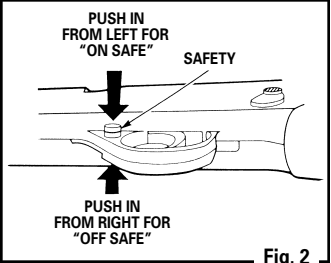

Fig. 2
• Push the safety from the left side all the way in (Fig. 2). **The safety is not "On Safe" unless it is pushed all the way in and the RED ring around the safety is not showing. The air rifle will not fire when "On Safe".**